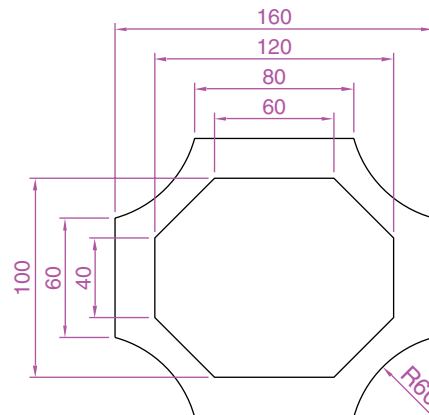

Fig. 3.40 Exercise 9
9. Construct the drawing in Fig. 3.40 using the **Line** and **Arc** tools. Then, with the aid of the **Multiple** prompt of the **Edit Polyline** tool change the outlines into plines of **Width=1**.